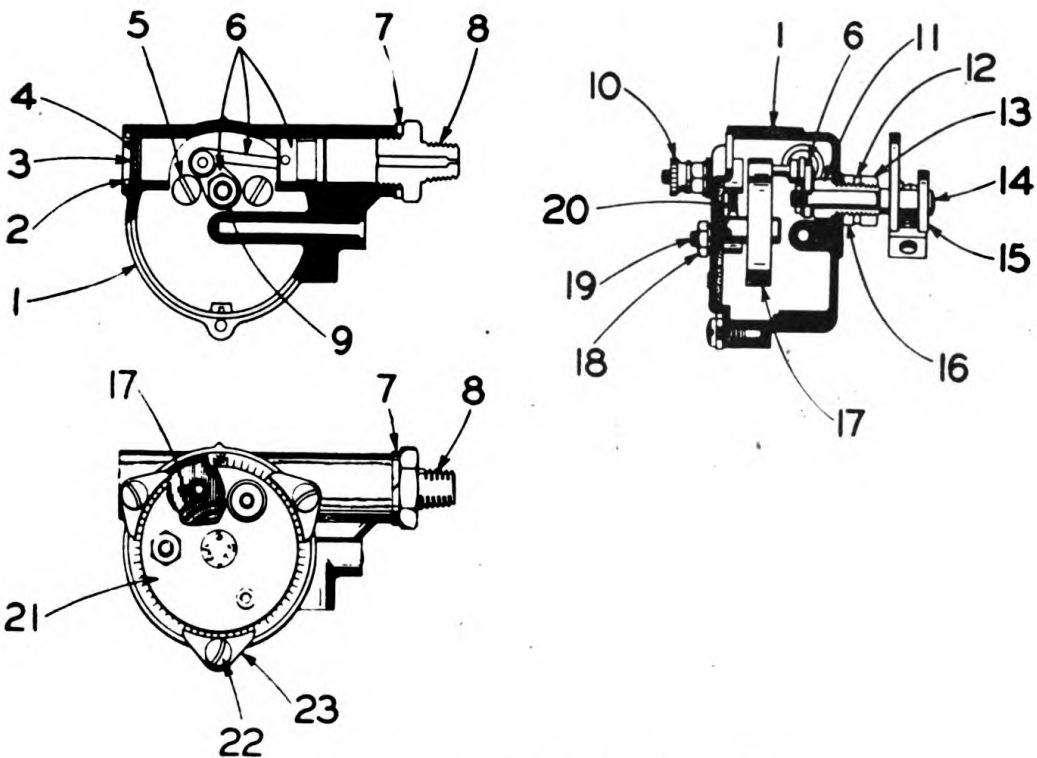

Figure 5.—Automatic choke diagram
(2) The vacuum piston, link and lever assembly, 6, figure 5, opens the choke valve when the engine begins to fire. This is accomplished by means of a rod hook-up from a lever on the automatic choke control unit to a choke lever attached to the choke valve-stem of the carburetor unit.
b. Functioning.—(1) When the engine ignition is turned off and the engine allowed to stand, the heating coil, 20, figure 5, in the thermostat assembly, 21, figure 5, cools, since its source of heat derived from the same current source as that which supplies the ignition, is no longer present.
(2) As the heating coil cools, the thermostat spring, 17, figure 5, also cools and gradually rotates the choke lever, 15, figure 5, closing the choke valve in the carburetor. The automatic choke control and choke valve remain in this position while the engine is not in operation, and also during the cranking period.
(3) The thermostat assembly, 21, figure 5, is directly connected at the hot wire post, 10, figure 5, by a wire to the ignition switch of the engine. When the ignition switch is turned on, the thermostat heating coil, 20, figure 5, is heated by the passage of current through it.
(4) When the engine is started, a vacuum is created in the manifold. The automatic choke unit, connected by means of a tube from the vacuum line union, 8, figure 5, to the intake manifold, is now subjected to the manifold vacuum which actuates the vacuum piston, link and lever assembly, 6, figure 5. As the heating coil, 20, figure 5, heats up, with the closing of the ignition switch, the thermostat spring, 17, figure 5, also tends to heat and lose its tension. This enables the vacuum piston, through its link and lever assembly, to pull in a direction opposite to the spring tension and actuate the choke lever, 15, figure 5, so as to open the choke and permit normal operation of the engine.
10. VOLTAGE REGULATOR.—*a. General.*—(1) The voltage regulator is an instrument which performs the functions of an auto-
16. **AUTOMATIC CHOKE.**—*a.* The automatic choke thermostat assembly, 21, figure 5, is preadjusted and under ordinary circumstances it will give many months of satisfactory service. The heating elements, 20, figure 5, have been designed to furnish sufficient heat to provide the correct amount of thermostat tension for choking. Should it become necessary to replace the thermostat unit, the whole assembly should be renewed since the thermostat spring, 17, figure 5, is included in the thermostat assembly as a single unit and replacement of the thermostat spring alone is not recommended.
b. Thermostat setting.—When replacing the thermostat unit, the loop of the thermostat spring must be placed over the pin of the vacuum piston, link and lever assembly, 6, figure 5. (THIS OPERATION IS VERY IMPORTANT, SINCE IT IS NECESSARY THAT THE LOOP OF THE THERMOSTAT BE INSTALLED PROPERLY IN RELATION TO THE PIN OF THE VACUUM